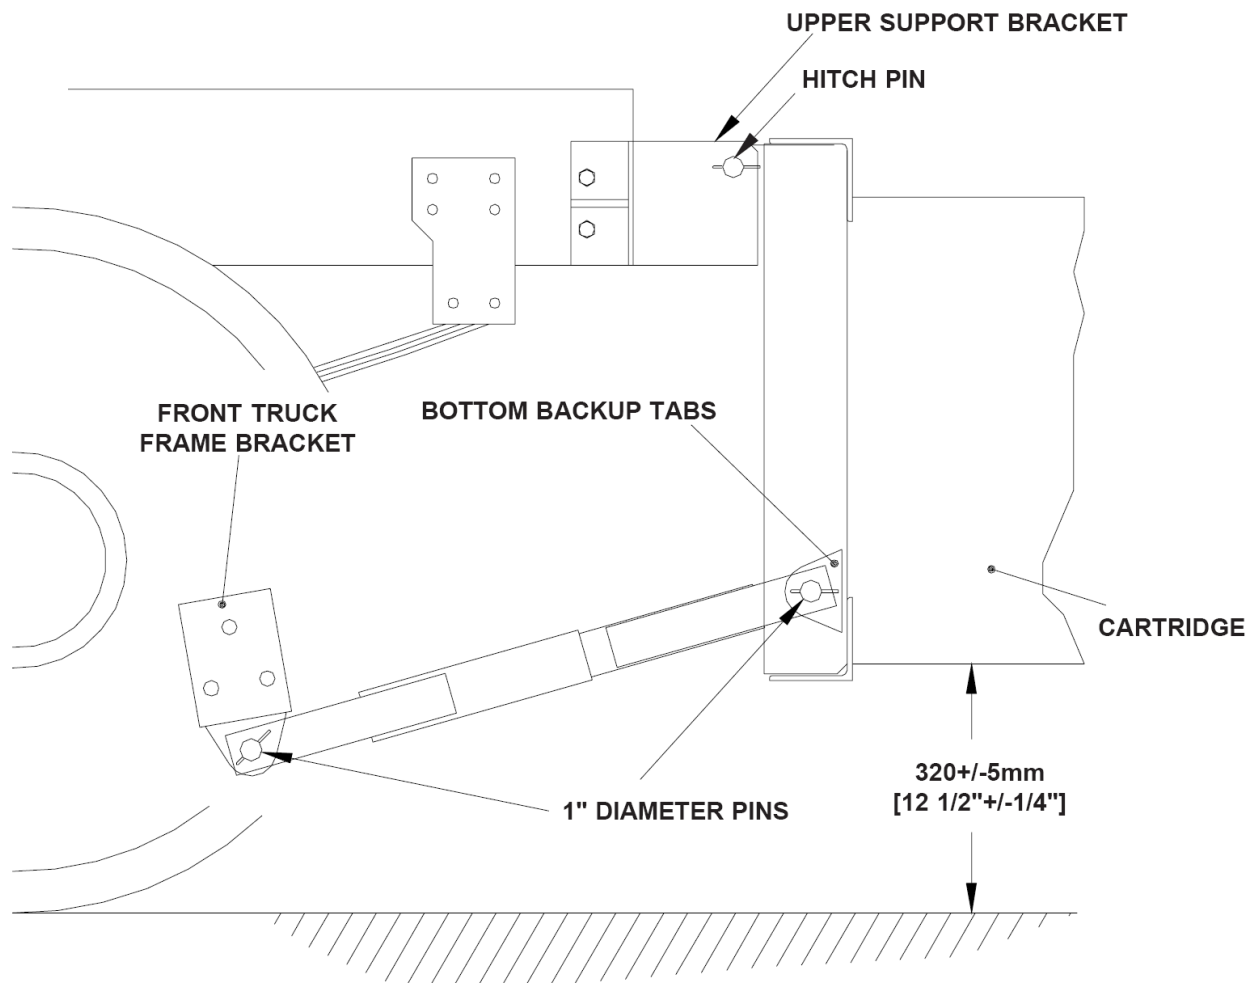

Figure 7
9. Move the Cartridge and Backup to the Upper Support Brackets and insert the two Hitch Pins (PN 116294) (see Figure 7). Verify bottom of Cartridge is $318 \text{ mm} \pm 6 \text{ mm}$ [$12 \frac{1}{2}'' \pm \frac{1}{4}''$] from the ground at the front and $330 \text{ mm} \pm 6 \text{ mm}$ [$13'' \pm \frac{1}{4}''$] from the ground at the rear (use plywood under the rear jack, if necessary). The reason for these dimensions is to compensate for settling of the truck springs after TMA has been attached to the truck with the jacks elevated to their travel positions.
10. Attach the Standard Struts (PN 3522560-0000) to the bottom Backup tabs. Attach the Front Truck Frame Brackets (PN 2725451-0000) to the other end of the Struts (see Figure 7).